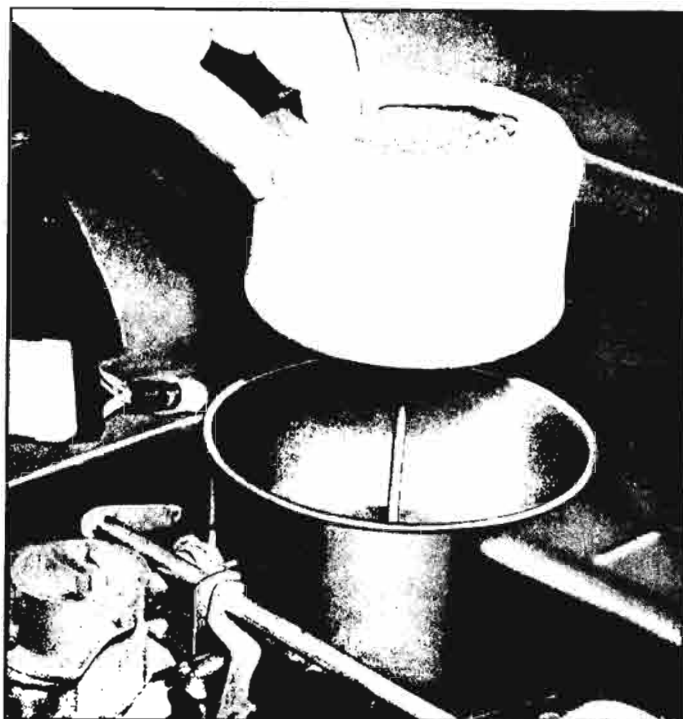

Fig. 9-39—Removing Element from Support
- a. Remove cleaner element and support from cleaner body (fig. 9-39).